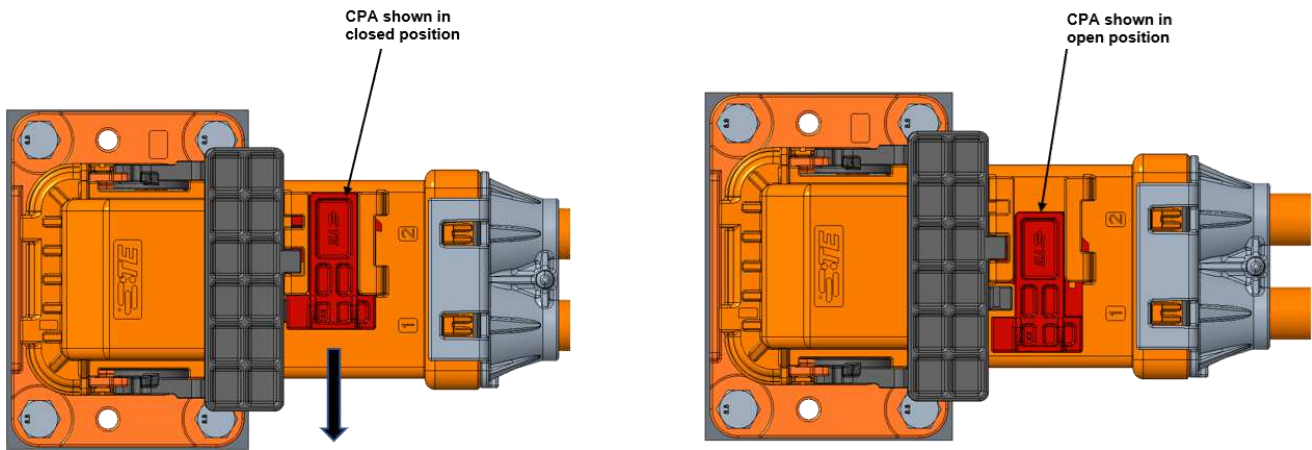

Figure 17: Lever from Close to Open
1. Push the red CPA forward until it stops as shown in Figure 17.